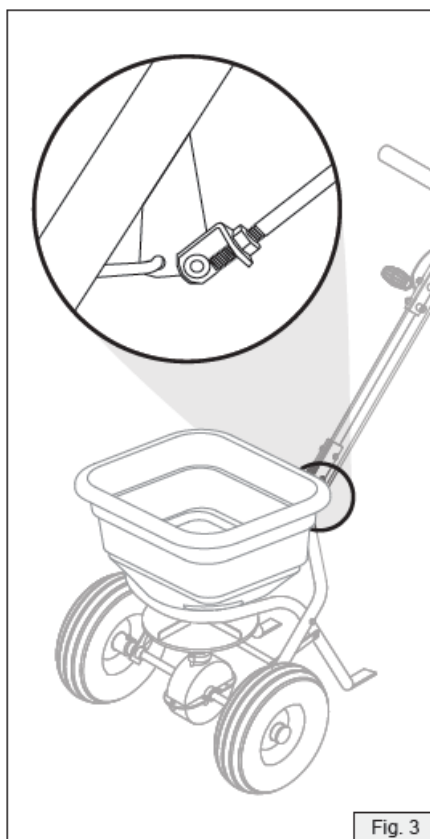

Fig. 3
3. Rotate control rod and insert into adjustment handle, Figure 3. Remove one nut from end of control rod. Insert control rod into pivot and bracket assembly as shown below.